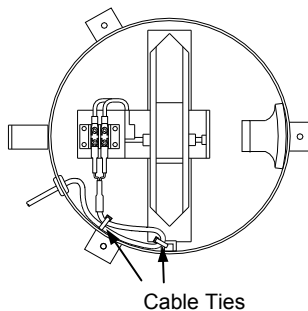

Figure 2: Service Loop
4. From outside of housing, feed the wire end of the cable through the rubber grommet. Slide the wires back into the terminal block until no bare wire is showing, but only far enough so that the terminal block screws clamp down on the bare wire and not the black and white insulation. (The polarity of the input connection is not important.) Tighten the terminal block screws and then gently tug the wires to ensure they are secure. **Make sure any excess cable inside of housing is secured so that it does not interfere with the operation of the tipping bucket mechanism!** If possible, create service loop for cable by using two small cable ties to loop and secure cable to cable tie mount (see Figure 2).